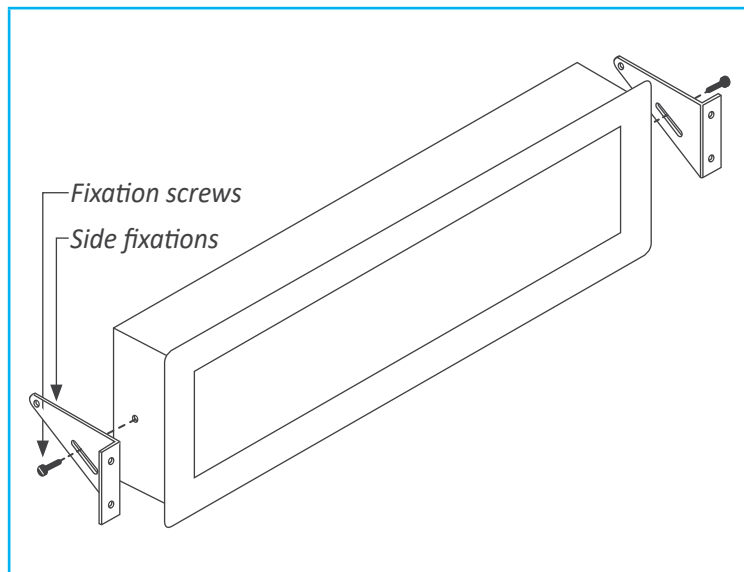

Figure 8 - Panel mount
- Panel mount. Apply the cut-out to the panel as seen on section 1.4. Remove the side fixations. Introduce the instrument into the panel cut-out. Mount the side fixations as shown (see Figure 8). Slightly loosen the fixation screw of one side and press the instrument against the panel. Tighten the fixation screw so it presses the panel and maintains the fixation. Repeat with the opposite side fixation.